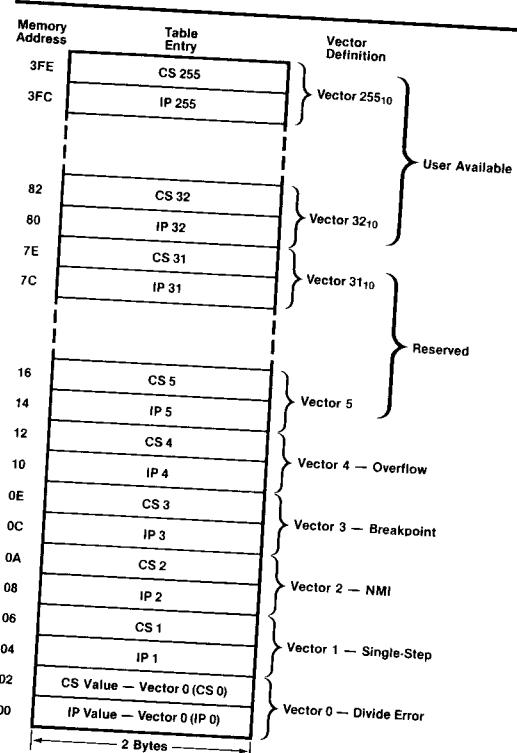

Figure 4-18. Interrupt Vector Table
CPU interrupts can be software or hardware initiated. Software interrupts originate directly from program execution (i.e., execution of a breakpointed instruction) or indirectly through program logic (i.e., attempting to divide by zero). Hardware interrupts originate from external logic and are classified as either non-maskable or maskable. All interrupts, whether software or hardware initiated, result in the transfer of control to a new program location. A 256-entry vector table, which contains address pointers to the interrupt routines, resides in absolute locations 0 through 3FFH. Each entry in this table consists of two 16-bit address values (four bytes) that are loaded into the code segment (CS) and the instruction pointer (IP) registers as the interrupt routine address when an interrupt is accepted. Figure 4-18 illustrates the organization of the 256-entry vector table.
As shown in figure 4-18, the first five interrupt vectors are associated with the software-initiated interrupts and the hardware non-maskable interrupt (NMI). The next 27 interrupt vectors are reserved by Intel and should not be used if compatibility with future Intel products is to be maintained. The remaining interrupt vectors (vectors 32 through 255) are available for user interrupt routines.